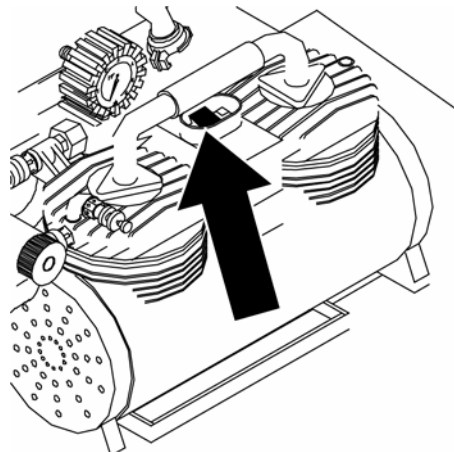

Fig. 35: Switching on the compressor
20. Switch on the compressor via the black button (Fig. 35/1).